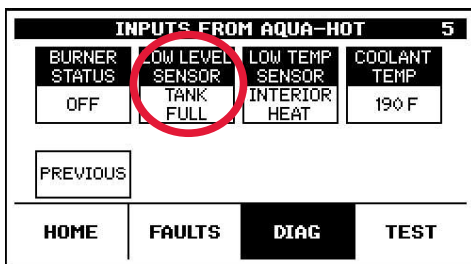

Figure 179
7. Pay attention to the "LOW LEVEL SENSOR" item on this page. See Figure 179.